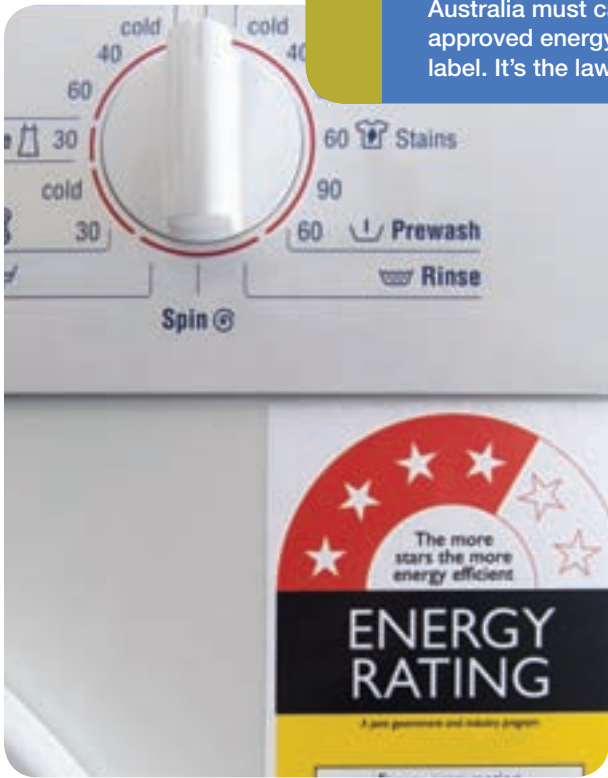

Figure 5.3.1
Household appliances vary in their energy efficiency. By purchasing appliances that are more efficient, your household will save energy and save on running costs. If you look around shops selling electrical appliances you will see that most large appliances carry a red and yellow **energy rating label**. A sample label is shown in Figure 5.3.1.
- 6 **Explain** what the star rating in Figure 5.3.1 on page 191 tells a consumer about the energy efficiency of this appliance.